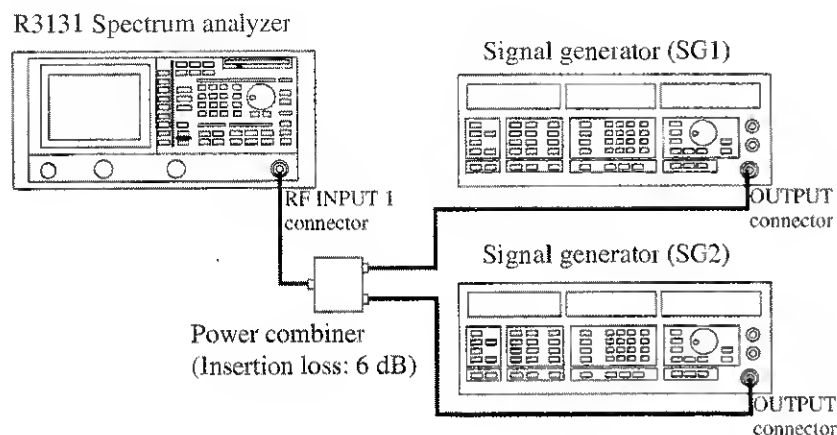

Figure 2-40 Setup for Input Saturation
1. Connect the signal generators as shown in Figure 2-40.